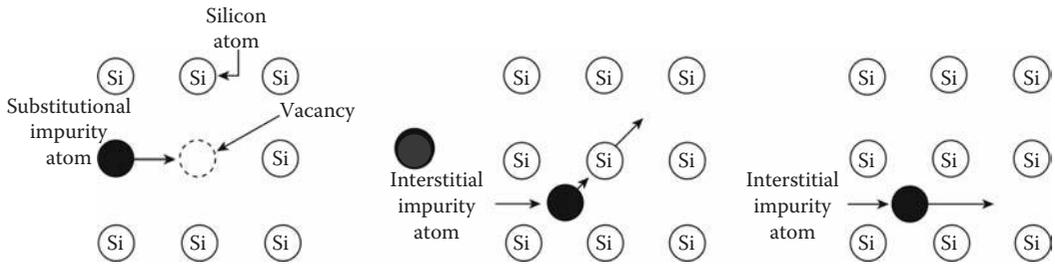

FIGURE 7.25
red-hot), and then the selected dopant, in a gaseous form (e.g., phosphine gas for phosphorus *n*-type doping), is allowed to flow into the tube. At temperatures this high, the dopant has sufficient energy to migrate (diffuse) into the crystal, in a process known as “solid-state diffusion” (note that nothing is melted here). The dopant atoms worm their way (diffuse) into the solid by one of two basic means: (1) “substitutional” diffusion (the dopant moves via vacant silicon lattice sites); or (2) “interstitial” diffusion (the dopant moves between the silicon atoms in lattice), or a combination of both, as shown in Figure 7.25. When you determine that the dopants are properly located on the silicon lattice sites, turn down the temperature and they are effectively frozen into place. Perfect.